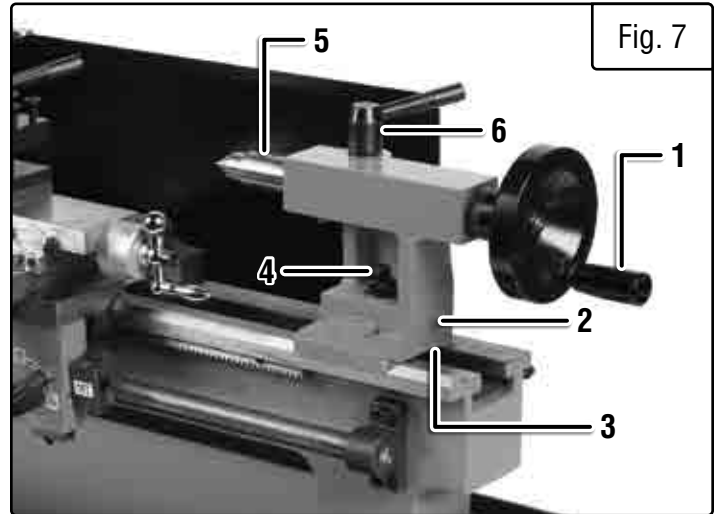

Fig. 7
The tailstock (Fig. 7) is located on the bed opposite of the headstock. It can be moved along the bed by loosening the 17mm nut (Fig. 7 - 4) and pushing the tailstock to the desired position. When it is in the desired spot, tighten the 17mm nut to lock it in place. The tailstock is equipped with an MT2 taper to use with appropriate tools, like the included dead center, or an MT2 drill chuck. The tailstock arrives properly aligned to the headstock from the factory. This allows the use of dead or live centers for turning between centers, as well as on-center drilling if using a drill chuck. The tailstock quill is self-ejecting.
1. Use a 17mm wrench or socket to loosen the lock nut that holds the tailstock in place. Remove the stop screw on the rear of the end of the bed (p. 8, item 18) using a 4mm hex wrench. Then slide the tailstock off the bed.
2. Loosen the offset set screw (Fig. 7 - 2) on the back of the tailstock, below the handle.
3. Loosen the offset cap screw (Fig. 7 - 3) on the bottom of the tailstock. Only loosen it enough so the tailstock can slide.